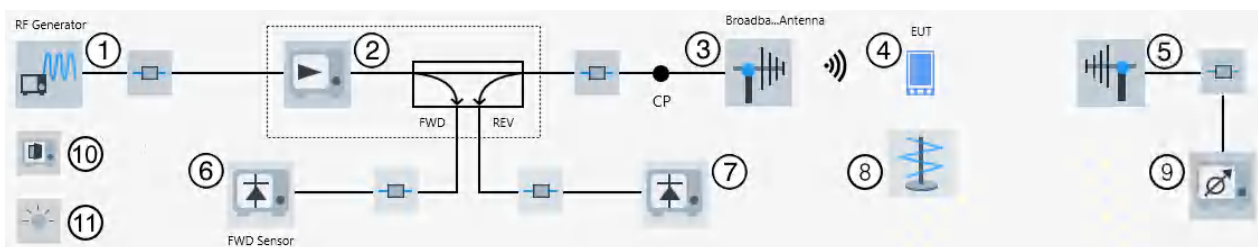

Figure 4-158: EMS hardware setup diagram (radiated) for a Reverberation Chamber in EUT Test View
- The "EUT Test View" (see Figure 4-158)